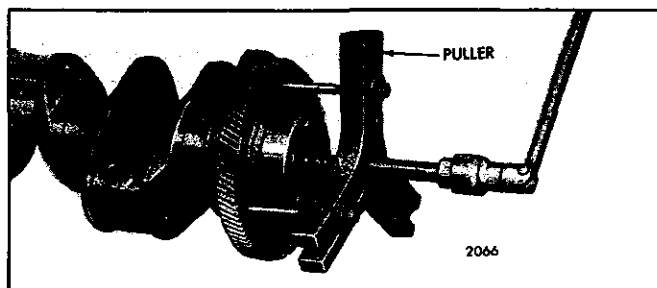

Fig. 1 - Removing Crankshaft Timing Gear with Puller J 4871
3. Attach bar type puller J 4871 to the crankshaft gear with three long bolts or hooks, flat washers and nuts through the holes in the gear (Fig. 1).